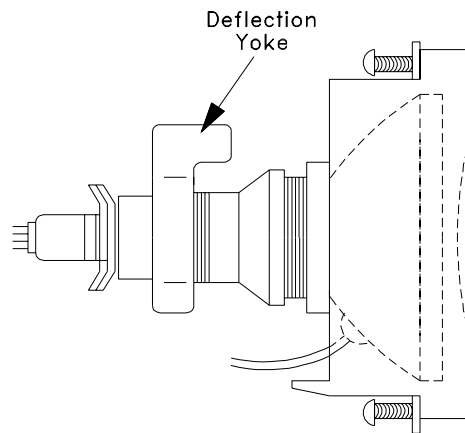

Figure 5-6
8. Remove the Deflection Yoke and other CRT components from the neck of the CRT. [Figure 5-6]
2. Install the Deflection Yoke and other CRT components back in their original position on the CRT neck. [Figure 5-6]